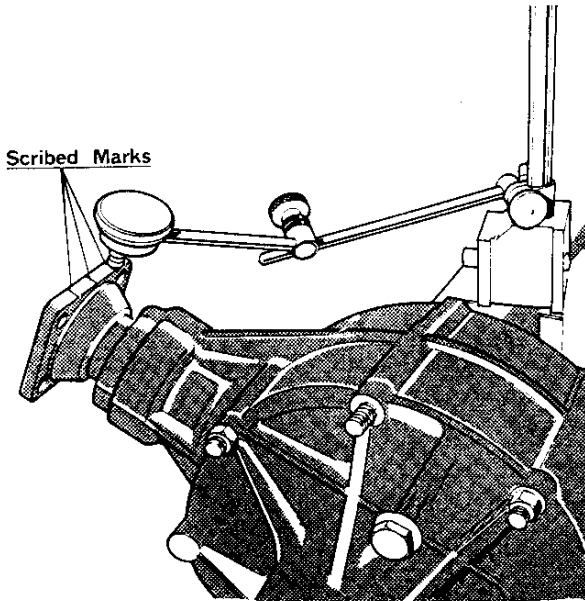

Figure 13 Determining pinion to crown wheel backlash using a dial gauge
- With pinion flange horizontal, scribe a centre line on the top end of the flange and a line 7/8 in on either side of it. (Figure 13). This represents the overall diameter of the pinion.
- Set up a dial gauge indicator on a magnetic base as shown in Figure 13.